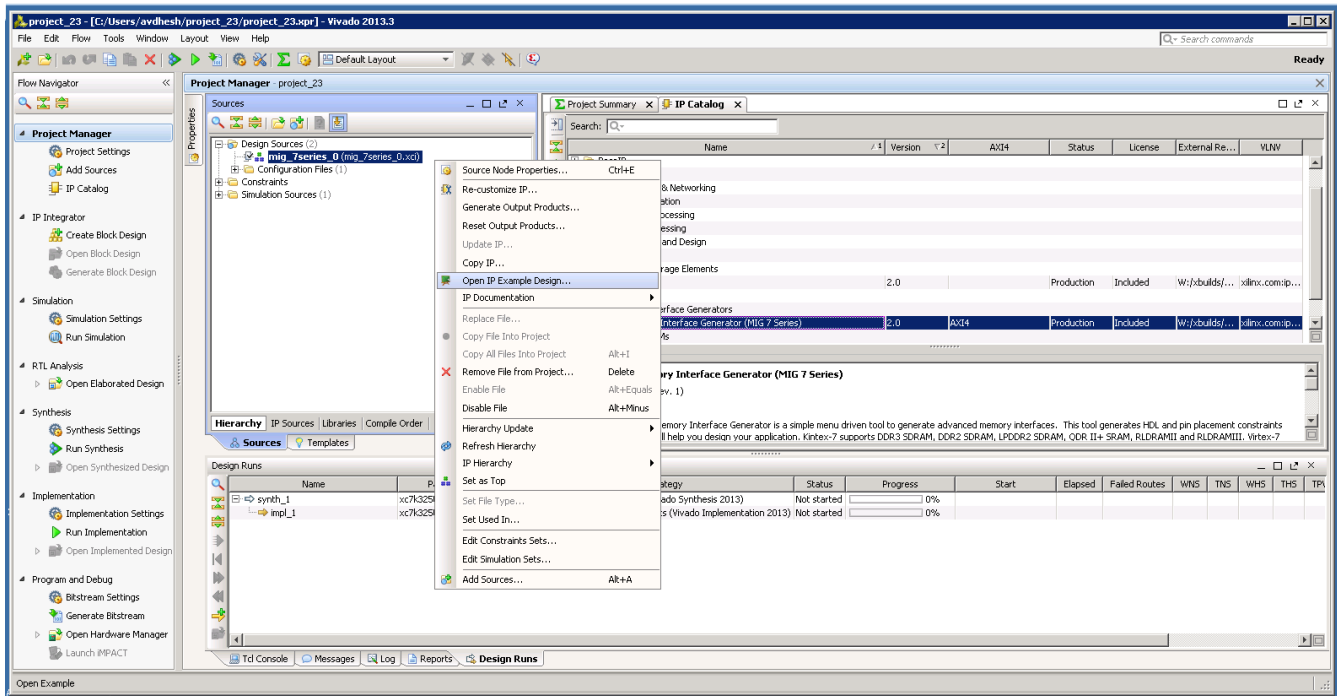

Figure 2-35: Open IP Example Design
9. Vivado supports **Open IP Example Design** flow. To create the example design using this flow right-click the IP in the **Source Window**, as shown in Figure 2-35 and select.